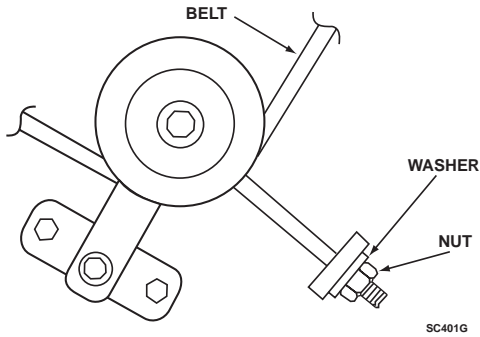
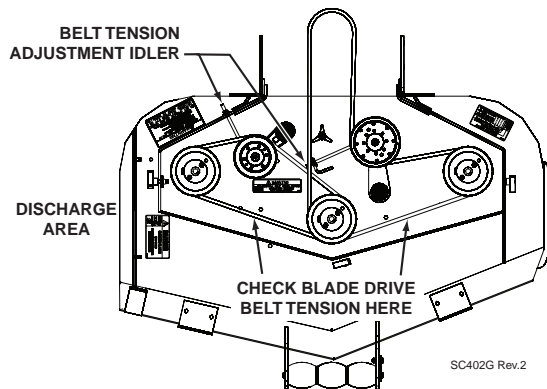

Figure 6-3. Cutter Deck Belt Adjustment R.H.
Figure 6-4. Cutter Deck Belt
3. Adjust the RH blade drive belt using a belt tension gauge. Adjust the belt so that the belt moves 1/2" with 10 pounds of pressure. Adjust the tension by tightening or loosening the J-bolt. See Figure 6-3 and Figure 6-4.
When the clutch is disengaged, the air gap between the armature and rotor must be adjusted to fifteen thousandths of an inch, 0.015, for proper operation. The airgap adjustment is made at three bolts on the clutch. There are three inspection windows, one next to each adjusting bolt. See Figure 6-3.
2. Place a 0.015 feeler gauge in the slot between the rotor and the armature. See Figure 6-4.